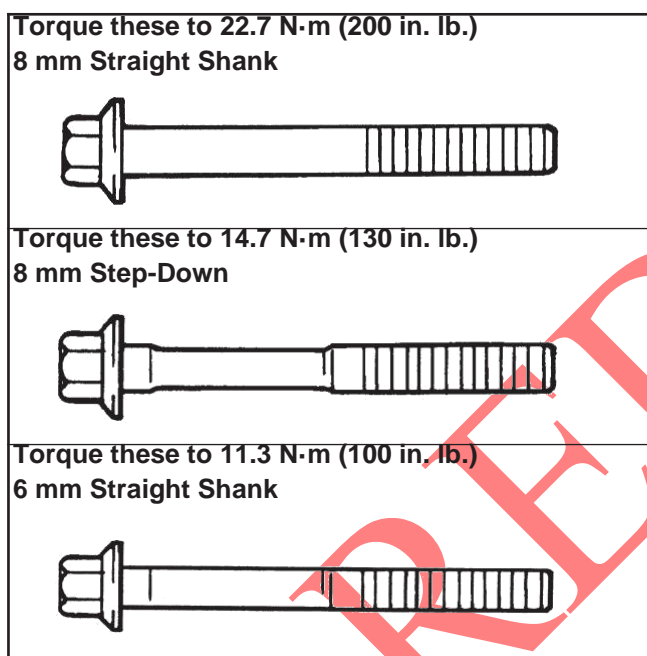

Figure 11-10. Connecting Rod Bolts.
5. Three different types of connecting rod bolts have been used in production and each has a different torque value. See Figures 11-10 and 11-11. The 8 mm straight shank style rod bolts must be torqued in increments to **22.7 N·m (200 in. lb.)**. The 8 mm step-down shank style rod bolts must be torqued in increments to **14.7 N·m (130 in. lb.)**. The 6 mm straight shank style rod bolts must be torque in increments to **11.3 N·m (100 in. lb.)**. Illustrated instructions are also provided in the service rod package.